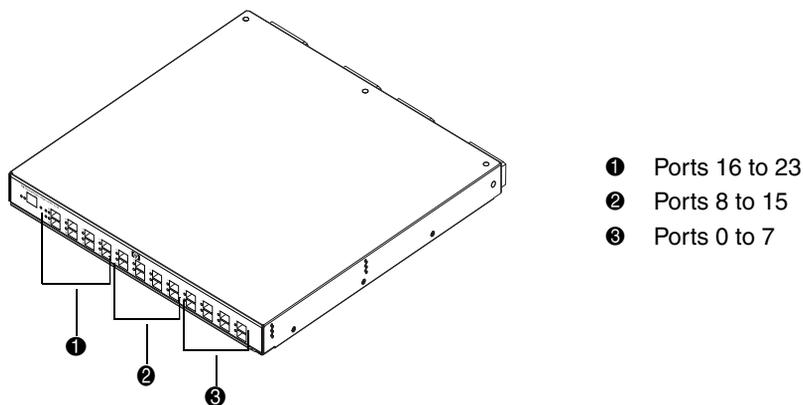

Figure 1: Edge Switch 2/24 port locations
Cross-reference links	Blue text: Figure 1
Ports 0 through 8 of the Edge Switch 2/24 are populated when you receive it (Figure 1, ❸).
1. Insert 8 new optical transceivers into ports 8 through 15 (Figure 1, ❷).
Ports 0 through 15 should be populated after you have completed the procedure described in “Upgrading to 16 Ports” (Figure 1, ❷ and ❸).
1. Insert 8 new optical transceivers into ports 16 through 23 (Figure 1, ❶).